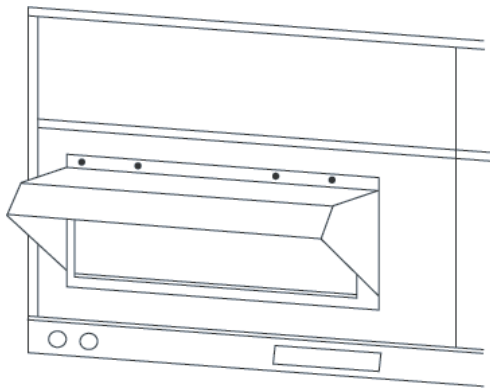

Fig. 6 - Manual Outdoor-Air Damper Hood Attached
6. Attach assembled hood with seal strips to the damper panel. (See Fig. 6.) Use screws provided.